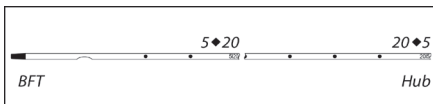

Figure 2
6. The catheter is marked to identify desired amount of catheter to be trimmed and length of catheter that remains (refer to Figure 2).
NOTE: Centimeter double numbering pattern is as follows (refer to Figure 2):